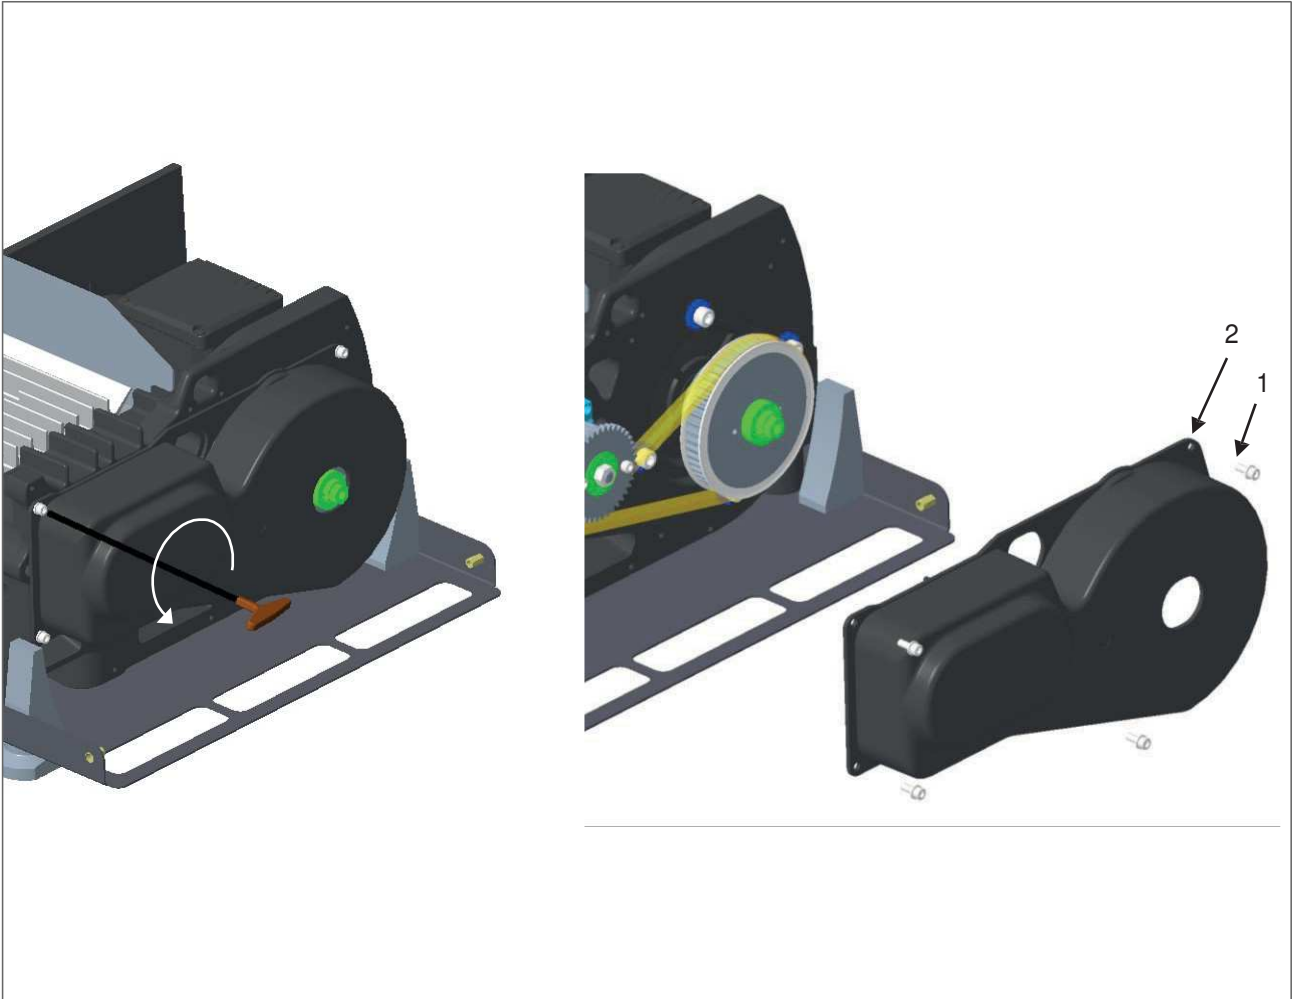

Figure 4 – Belt chamber cover removal
1. Using 5mm Allen key remove the 4 screws (Figure 4, item 1) which secure belt chamber cover (Figure 4, item 2).
2. Carefully separate belt chamber cover (Figure 4, item 2) from pump.